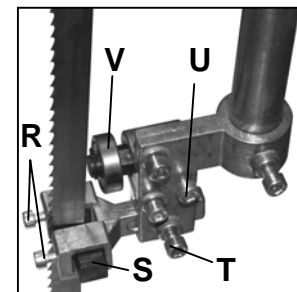

Figure 11
To adjust the saw blade so that it is properly lined up in the cutting channel, first loosen the two socket screws (R). Loosening these screws allows the two small guides (S) to move toward or away from the blade, centering it in the channel. Loosening the socket screw (T) on the Blade Guide will move it toward or away from the blade. Finally, loosen the socket screw (U) to move the Bearing (V) toward or away from the blade. For best results, the bearing should be 1/32" away from the blade. (Figure 11)